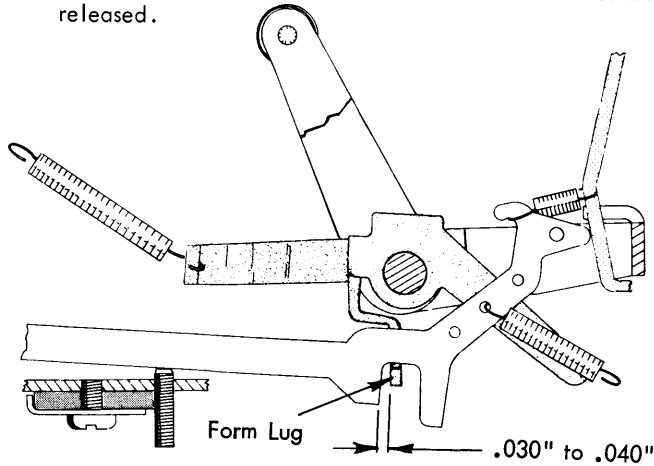

FIGURE 110. Clutch Release Arms Adjustment
7. **Clutch Release Arms** - Form the lug at the bottom of each clutch release arm so that it clears the interposer lugs by .030" to .040" (Fig. 110). The interposers and cams must be latched when the adjustment is observed.